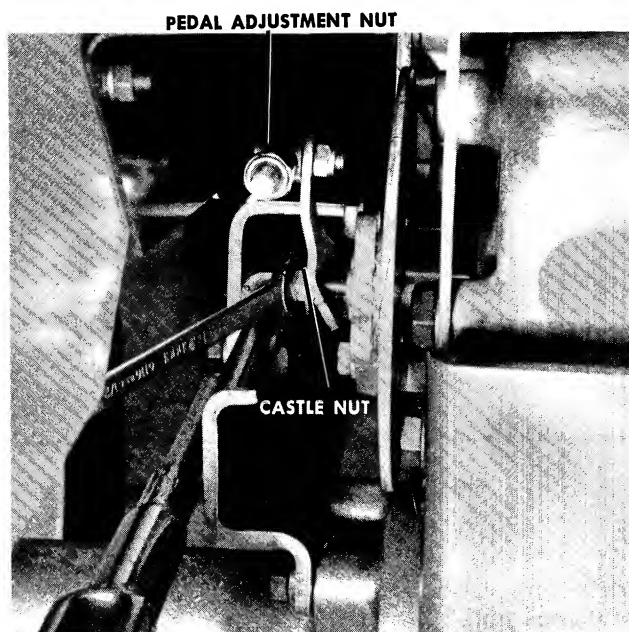

FIGURE 23. BRAKE ADJUSTMENT
Step 2. Adjust the pedal adjustment nut in Figure 23 if necessary.
Step 3. Remove the cotter pin from the castle nut. See Figure 23.